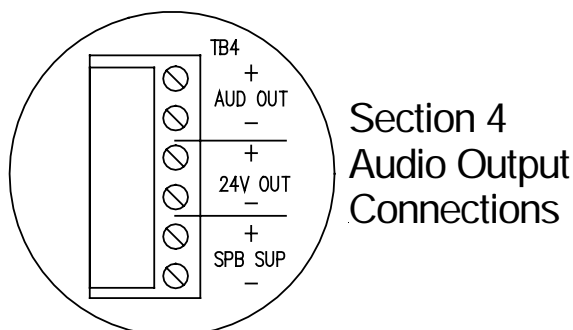

Figure 4-5 Audio Output Connections
1. Connect the Audio Appliance Circuit to the Audio Output (AUDIO OUT) connection on TB4. See Figure 4-1 for TB4's location. Figure 4-5 is an enlarged picture of the referred area. The Audio Output is